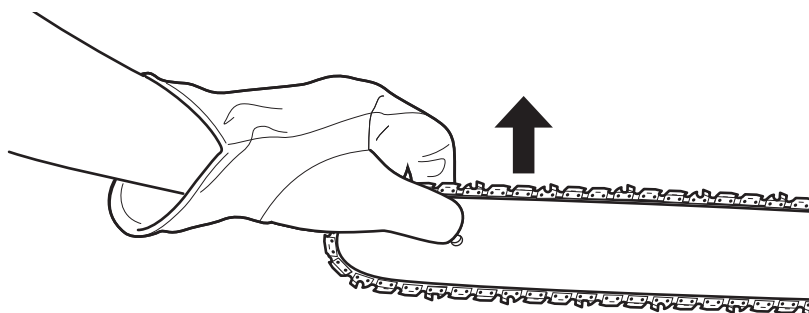
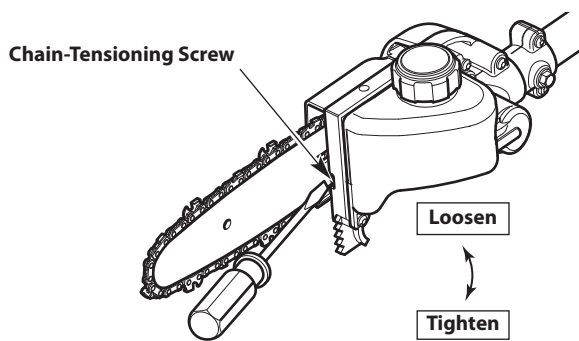

Fig. 15
Fig. 16
2. Hold the guide bar tip up (Fig. 15) and use a flat-head screwdriver to turn the chain-tensioning screw (Fig. 16).